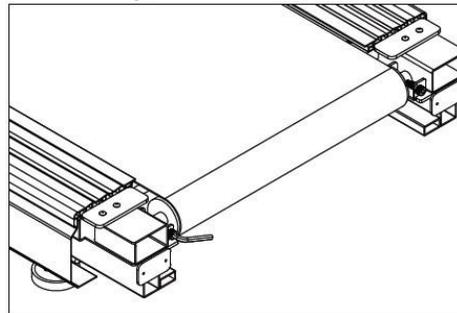

Figure 4.5.2
- 2) As shown in Figure 4.5.2, use L-type hex wrench to remove the two rear wheel screws.